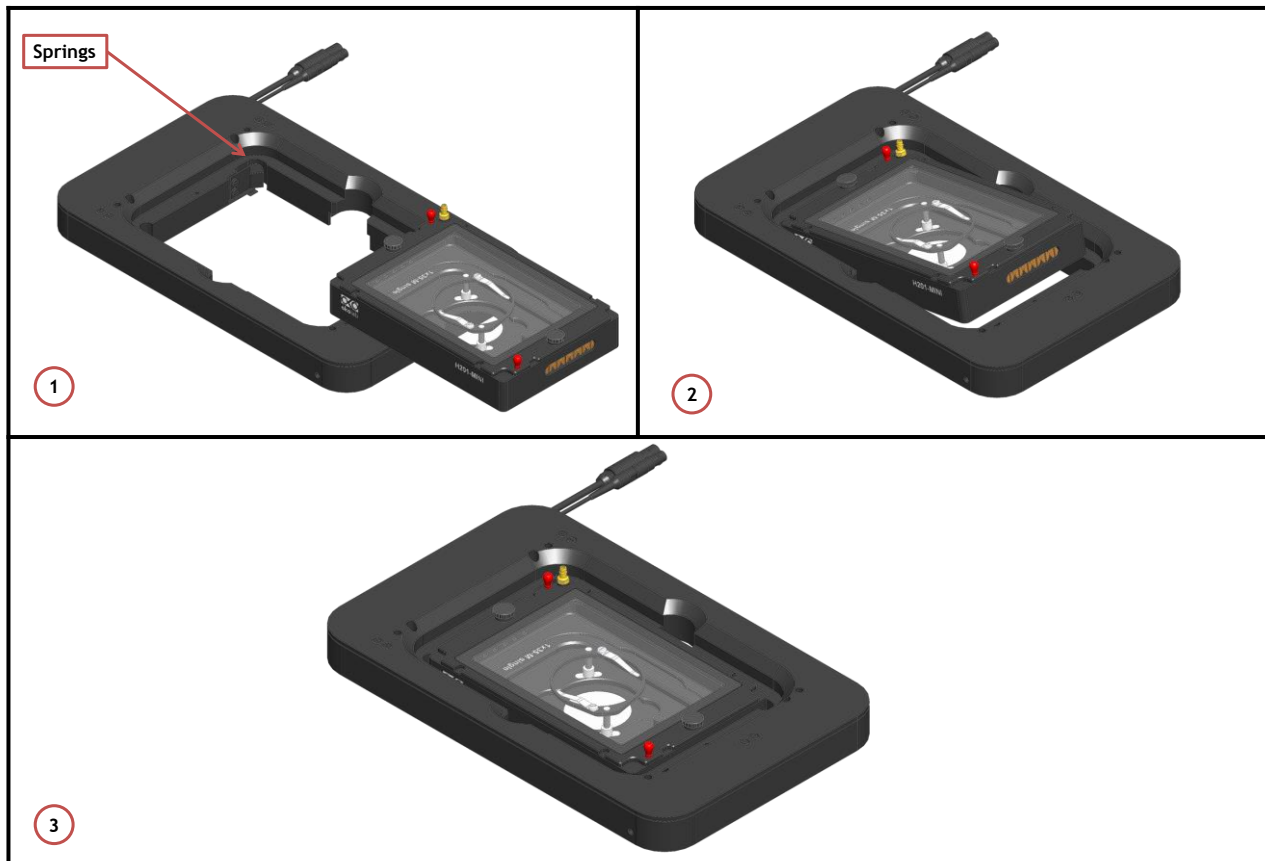

Figure 13. Connection of the Chamber with XY Stage
H201-MINI fits on the XY Stage without any screws. To fix the chamber on the stage, follow the steps shown in Figure 13.
1. Place the chamber on the stage (See Image 1 of Figure 13).
2. Tilt the chamber and slide it towards the spring until it snaps in place. (See Image 2 of Figure 13).
3. Image 3 of Figure 13 shows the chamber installed on the XY Stage.